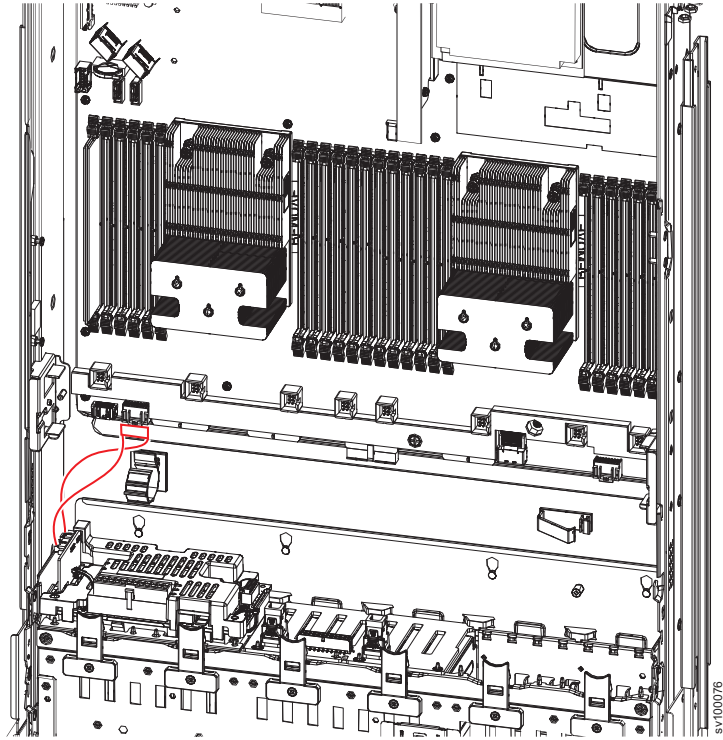

Figure 165. 2145-SV1 battery backplane power sense cable
3. Attach the battery backplane power sense cable to the main board, if needed, as shown in Figure 165.
4. Attach the battery backplane power sense cable to the battery backplane, as shown in Figure 165 on page 199.